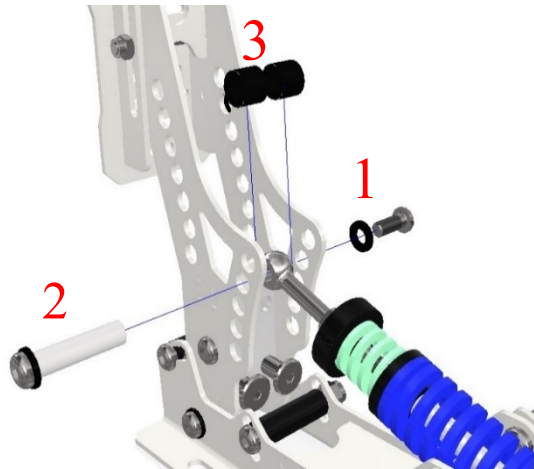

Fig. 5. Sequence of elements fastening the compression spring
- C. move the eyebolt that fastens the spring to the chosen height and screw it in keeping the correct sequence of elements [Fig.5].